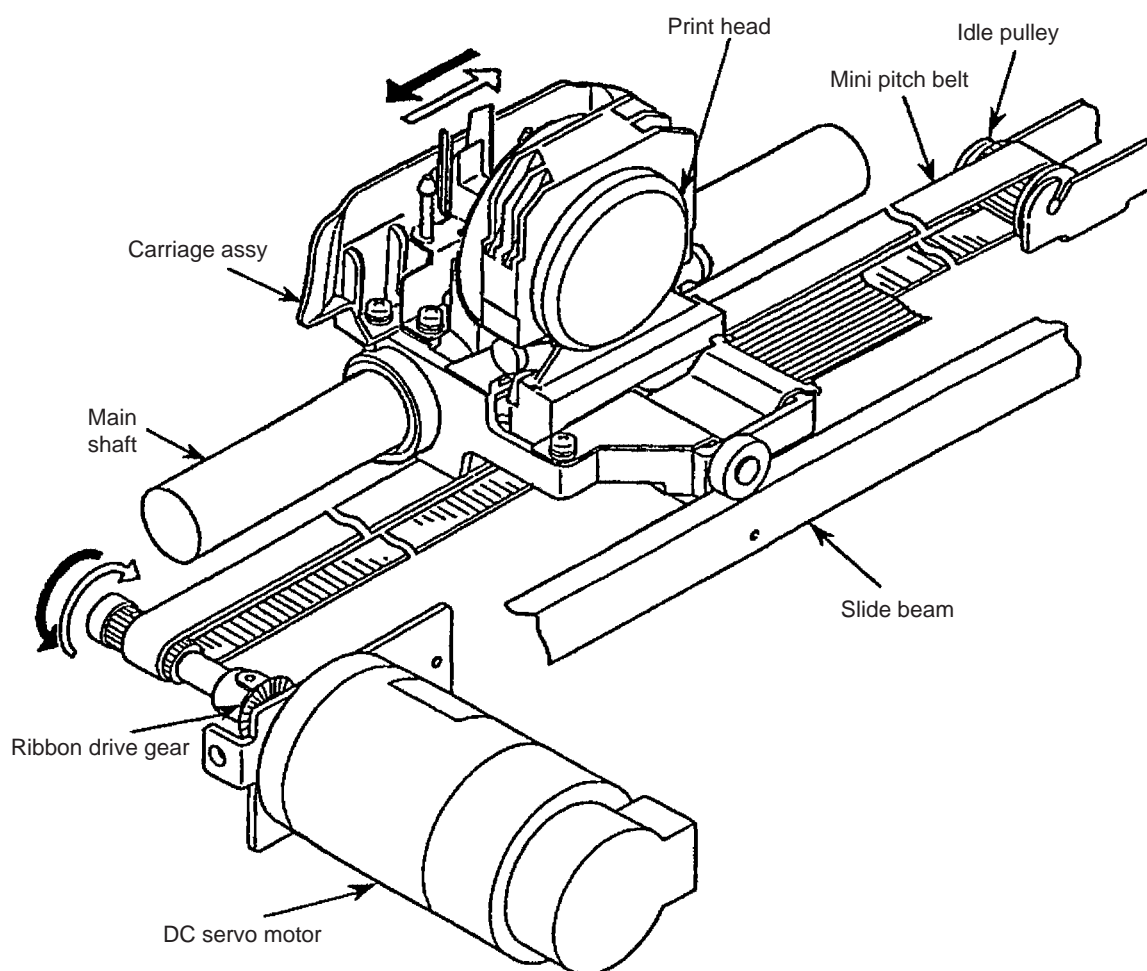

Figure 2-4 Spacing mechanism
(1) Spacing operation (See Figure 2-4)